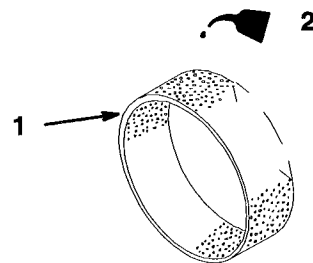

Figure 15
- C. Put one or two ounces of oil on the element (Fig. 15). Squeeze the element to distribute the oil.